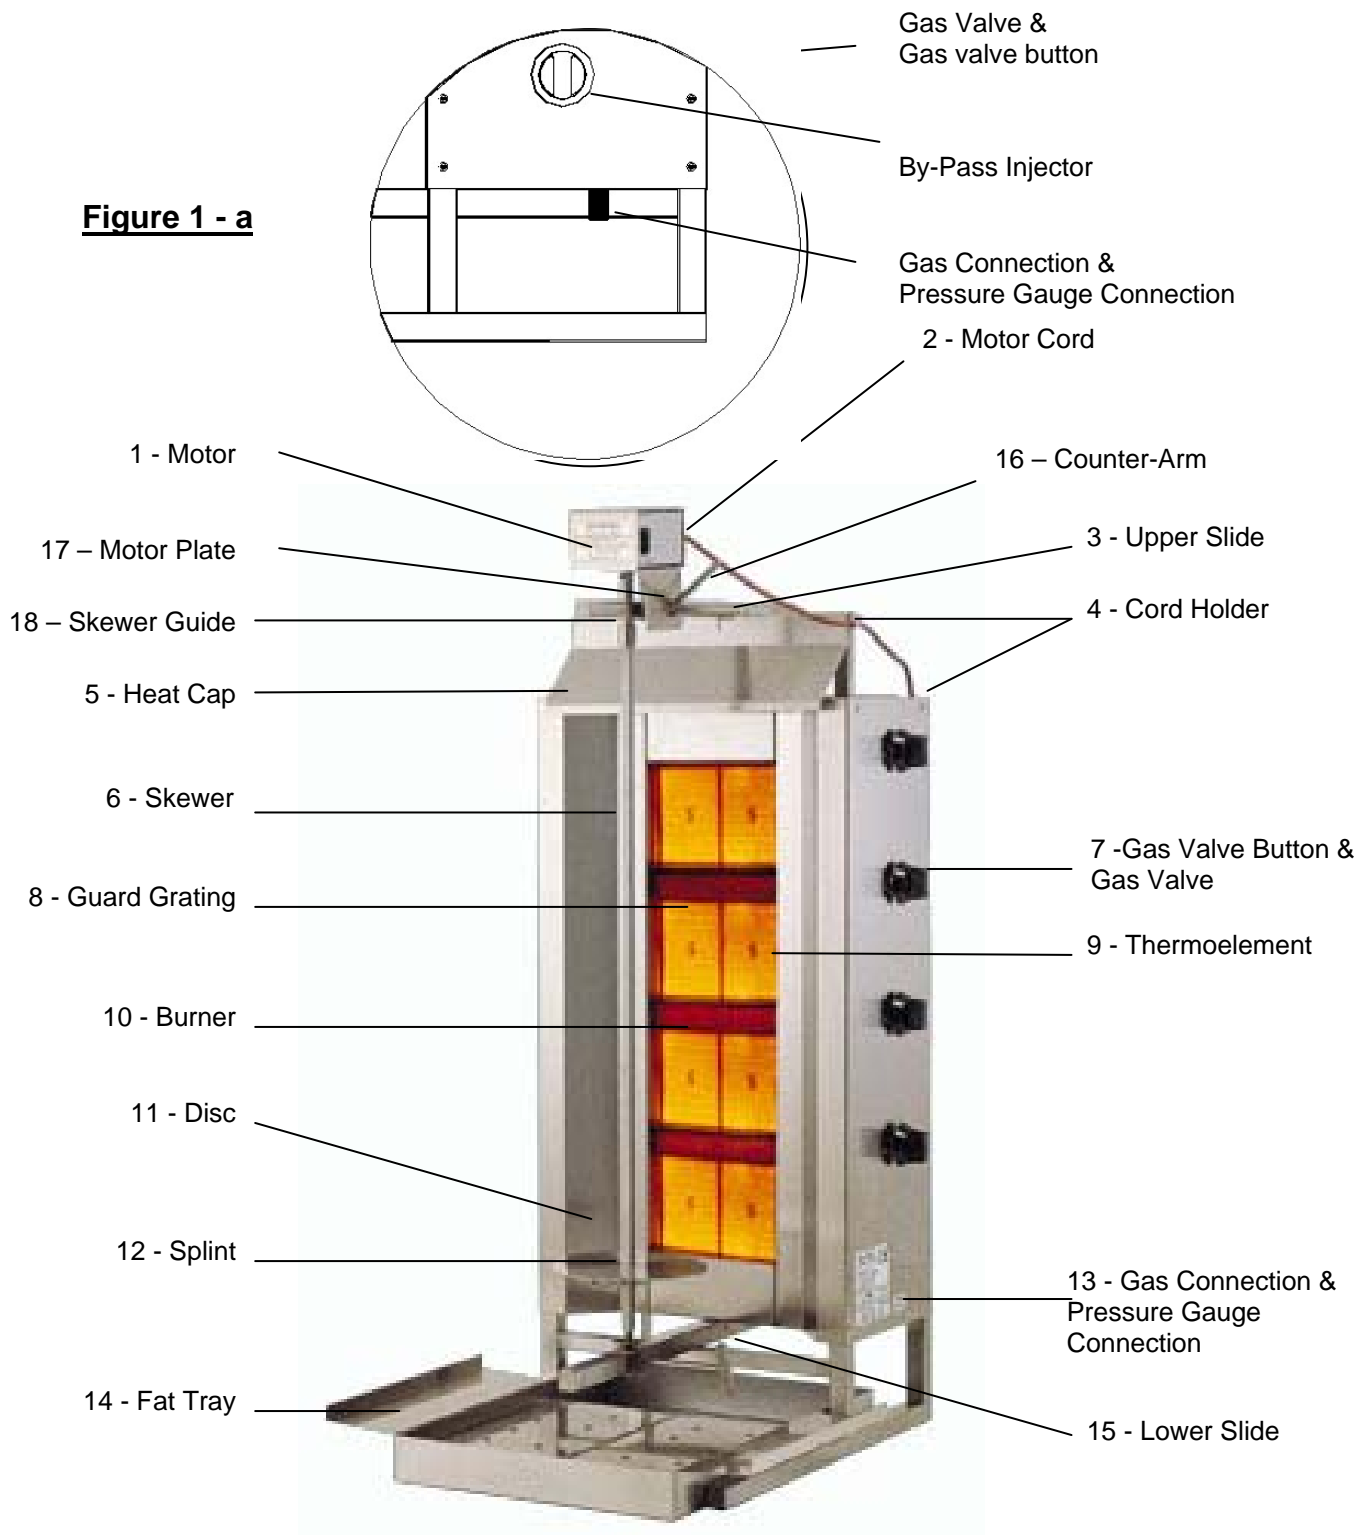

Figure 1 - b
* In döner-grillmaschine with motor on top, use the Heat Cap (5) being an original part of the appliance, in order to protect the motor from excessive heat during operation. (Figure 1-b)
3.1.1 – Motor on Top Type Döner-Grillmaschine (Figure 1 – b)
After installing the appliance in compliance with the regulations mentioned in the User's Manual of the motor on top type of döner-grillmachines the fat tray and the motor (Figure 1–b) are inserted, making the appliance ready for use. In these types of appliances, unscrew upper and lower slide arms for the meat grilling. The distance between the skewer (6) with meat on, and the burners is adjusted with the help of these arms.
(Figure 1-b)**
(Figure 1-b)